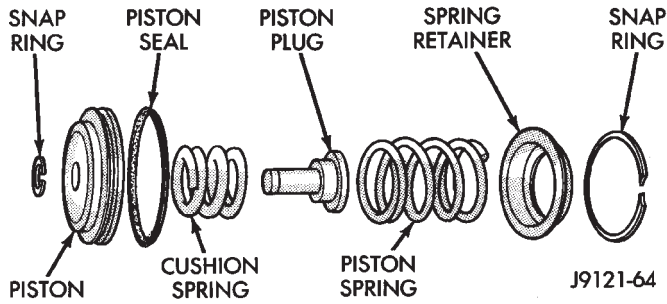

Fig. 117 Rear Servo Components
(1) Remove small snap ring and remove plug and spring from servo piston (Fig. 117).
(2) Remove and discard servo piston seal ring.